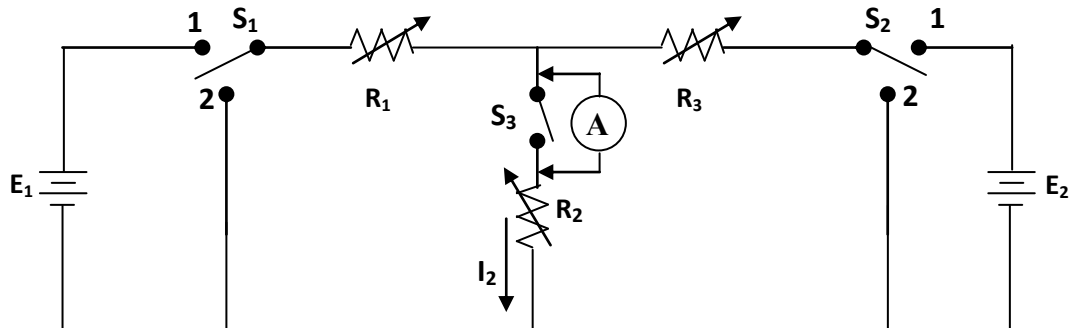

Figure 4-1
1. Set up the network (circuit) as in Figure 4-1.
3. Find theoretically the current I_2 with reference to Figure 4-1 applying the superposition theorem considering $E_1 = 15$ volts, $E_2 = 20$ volts and R_1, R_2, R_3 at their values recorded in the first observation of the table shown.